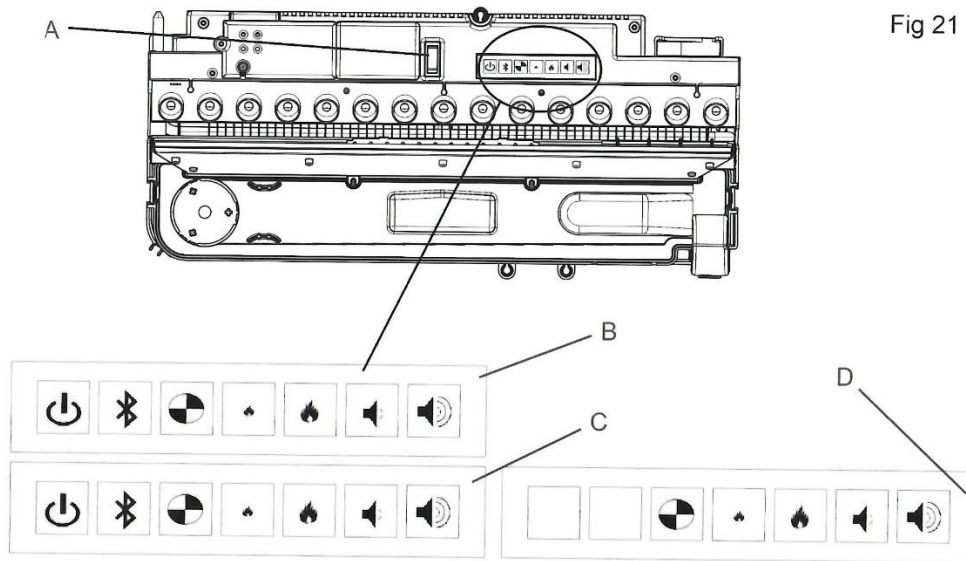

Fig 21
1. Lift off the top plate and put switch 'A' into the off position (Fig. 21).